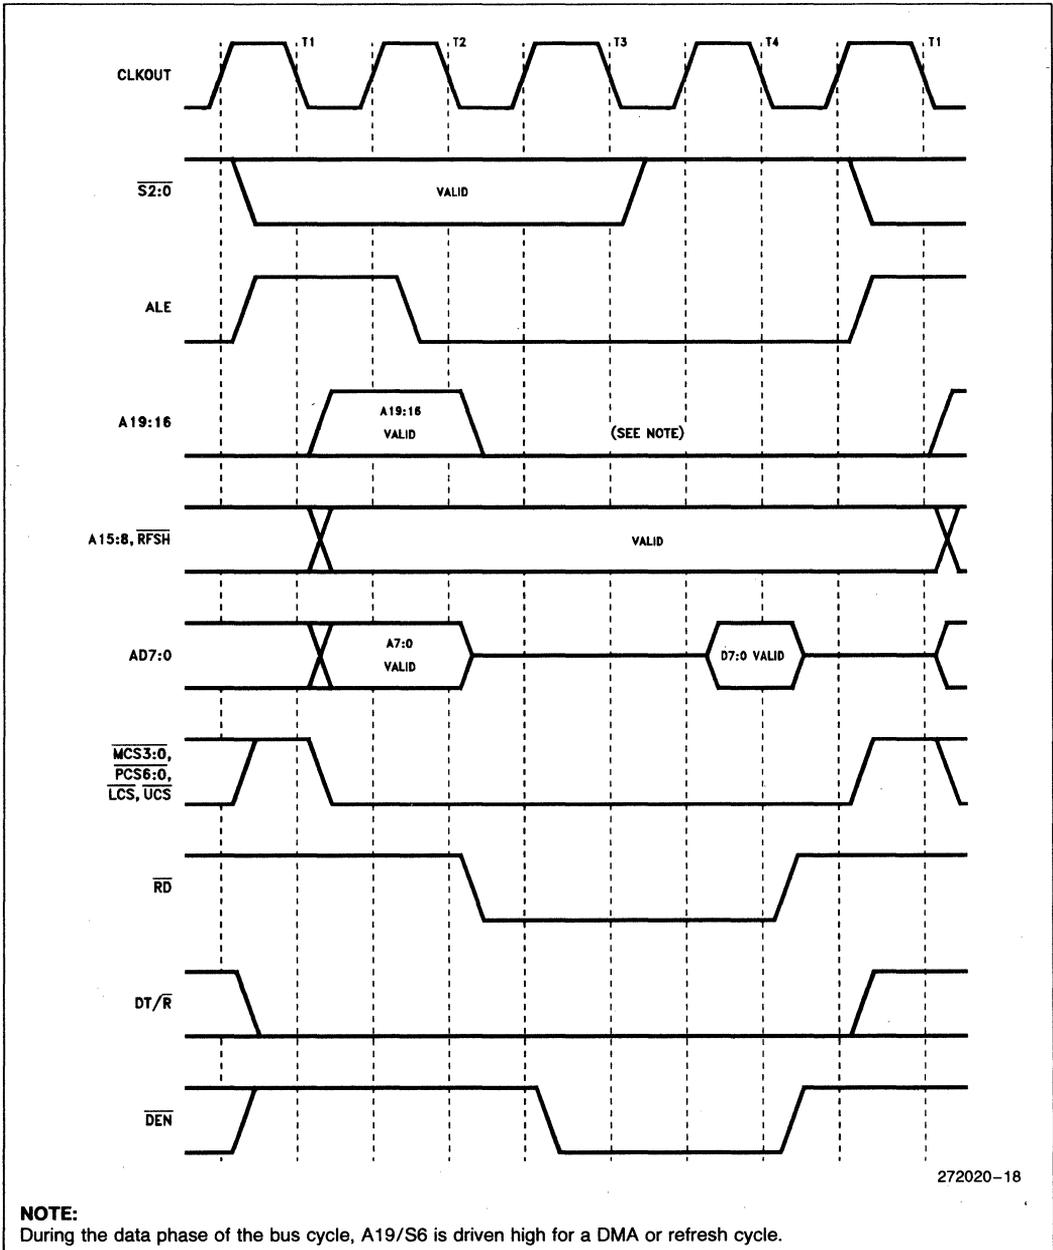

Figure 16. Read, Fetch and Refresh Cycle Waveform
4. Specified for a 50 pF load, see Figure 16 for capacitive derating information.
Figures 16 through 22 present the various bus cycles that are generated by the 80C188EA. What is shown in the figure is the relationship of the various bus signals to CLKOUT. These figures along with the information present in **AC Specifications** allow the user to determine all the critical timing analysis needed for a given application.